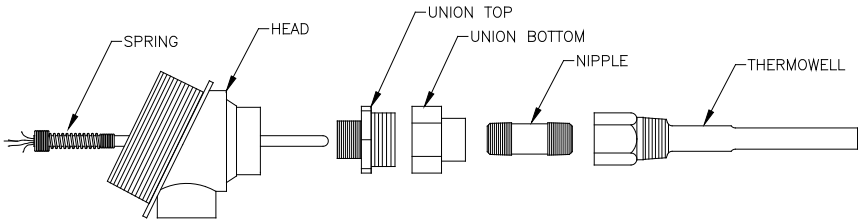

Fig. 6: RTD probe assembly
1. Install the thermowell into the meter run, and tighten (Fig. 6). Install the ½" stainless steel nipple into the thermowell, and tighten. Separate the union, and install the female end of the union along with its nut onto the nipple. Once completed, tighten. With the RTD head still loose, screw the male end of the union into the bottom of the head, and tighten.